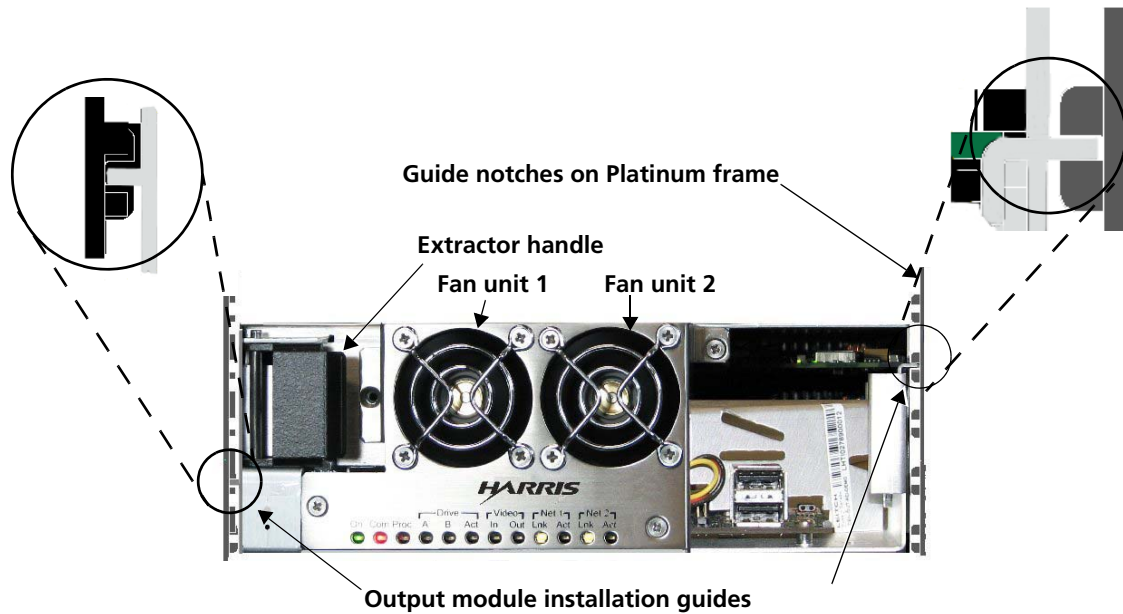

Figure 2-2 Installing the Output Module
- 3 Align the installation guides on the left and right sides of the back module with the guide notches of the appropriate slots in the Platinum frame (see Figure 2-2).